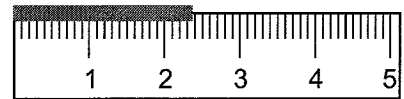

Fig. 1-2
**Example 1:** The ruler shown in figure 1-2 is marked in centimeters and millimeters. Remember, ten millimeters are in one centimeter. What is the measurement of the object shown on this ruler?